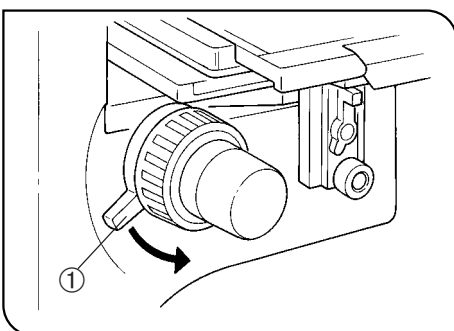

Fig. 11
3 Pre-focusing Lever (Fig. 11)
Following Fig. 11, turn the built-in micrometer-mounting frame ② counter-clockwise to remove it from the eyepiece and place a micrometer disk.